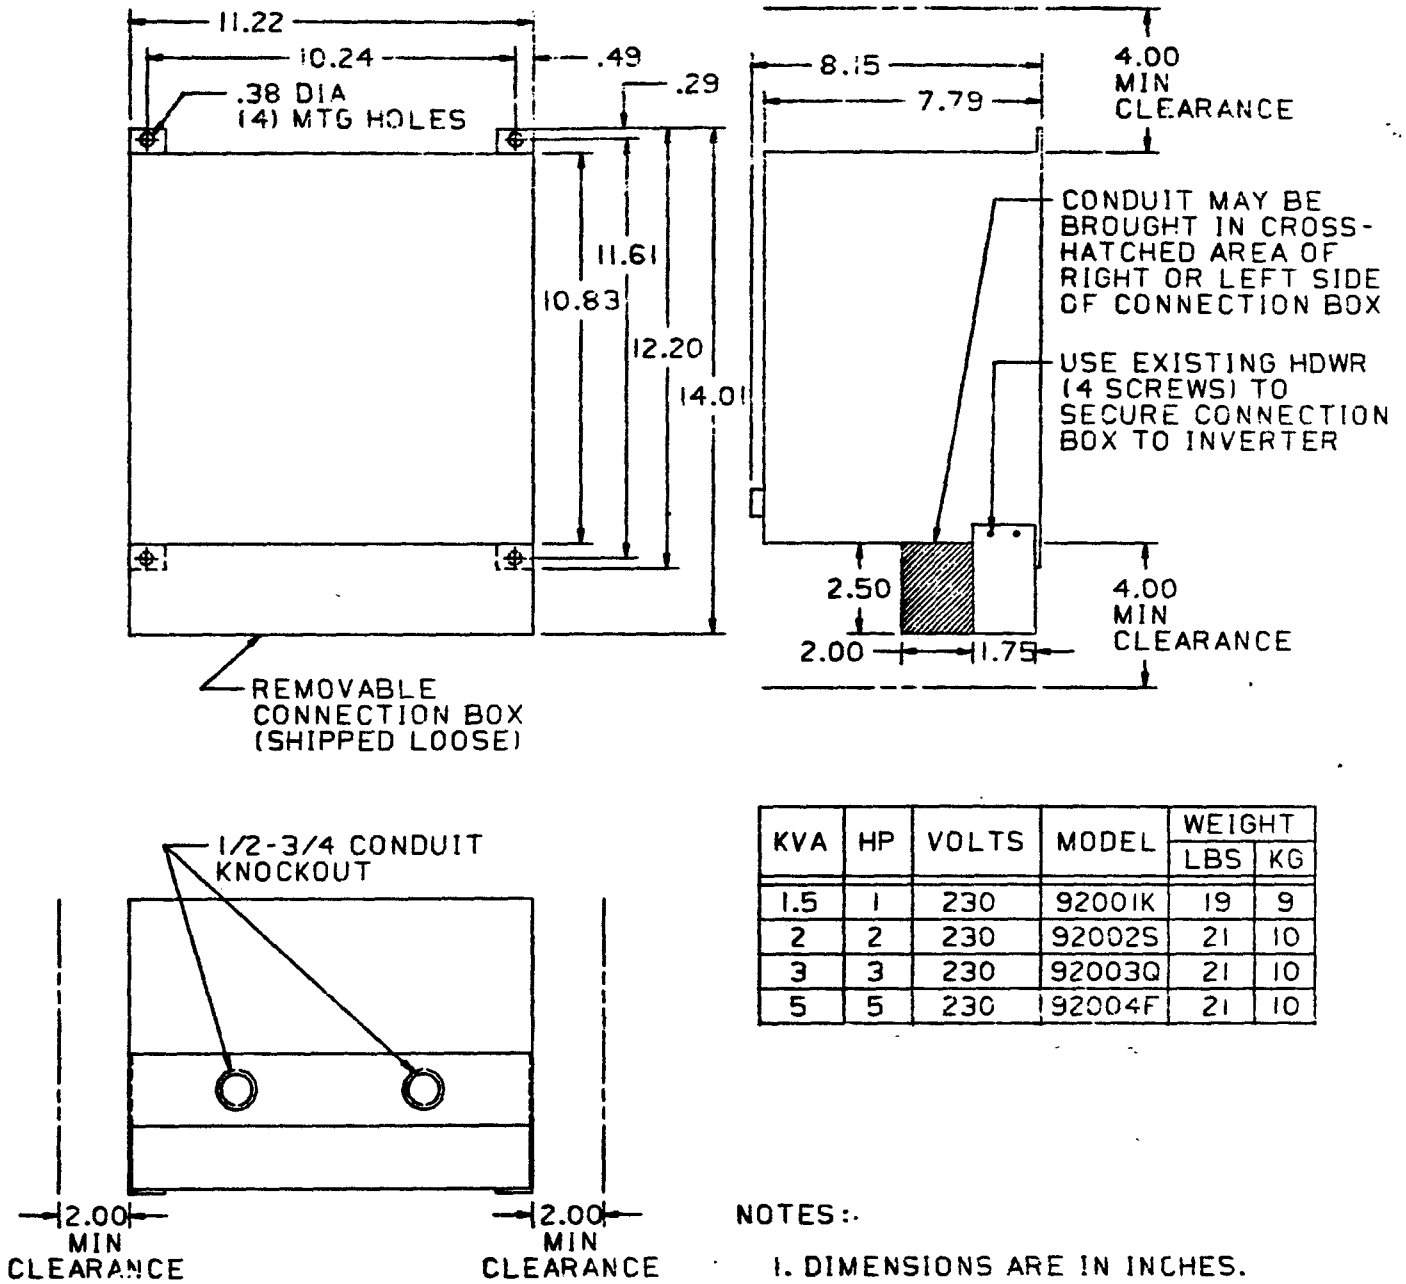

FIGURE 14 EXTERNAL VIEW AND DIMENSIONS
1. Cabinet mounting is upright with more than 2" clearance on the sides and more than 4" at top and bottom. Figure 14 shows dimensions of the LANCER JR type L. The 1.5KVA, 2KVA, 3KVA and 5KVA models are the same size.